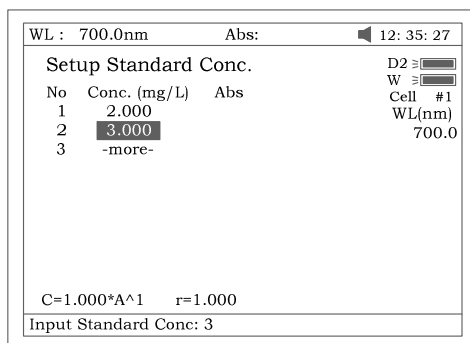
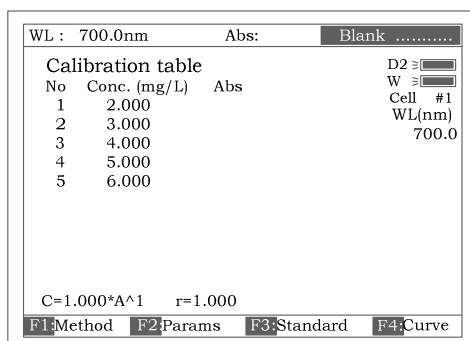

Fig 31
Fig 32
- 3.3.1 Enter standard concentrations of samples by pressing the Numeric keypad followed by **【ENTER】**. Press **【^】** or **【v】** to modify the inputted data (Fig31). Press **【ESC/STOP】** to finish inputting and to exit (Fig 32).
- 3.3.2** Push the blank cuvette into the Light Path, press **【0Abs/%100T】**, the instrument will step to the wavelength and blank. See Fig 32.